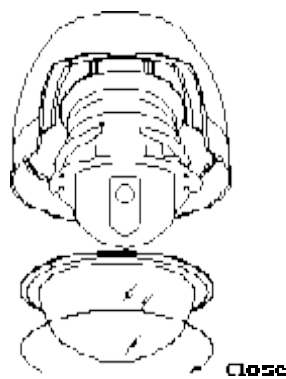

Figure 6
- 4) Install the dome cover (Figure 6).